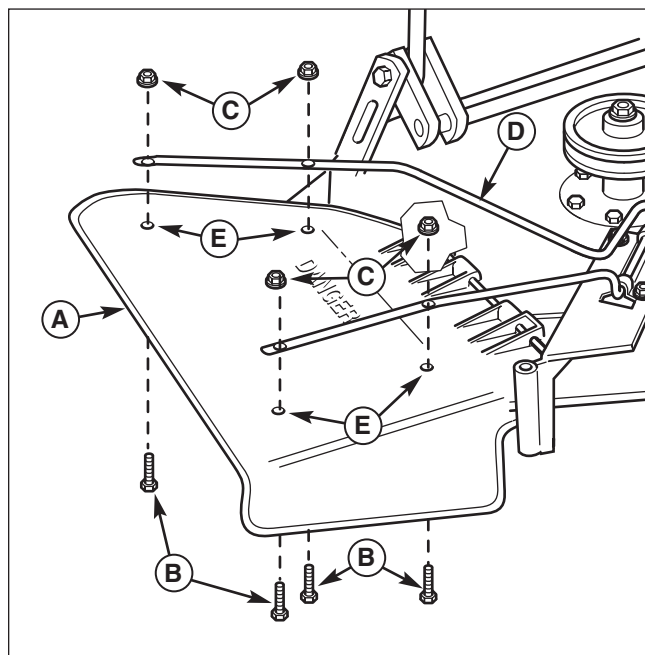

Figure 6. Install Deflector
4. Drill four 13/64" holes from the bottom of the deflector (A, Figure 6) at the pre-molded drill hole locations (E).
5. Attach the deflector (A) to the rod (D) using the #10-24 screws (B) and #10-24 nuts (C).